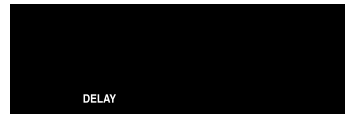

Fig. 1
4. Press delay start (See Fig. 1).	delay start